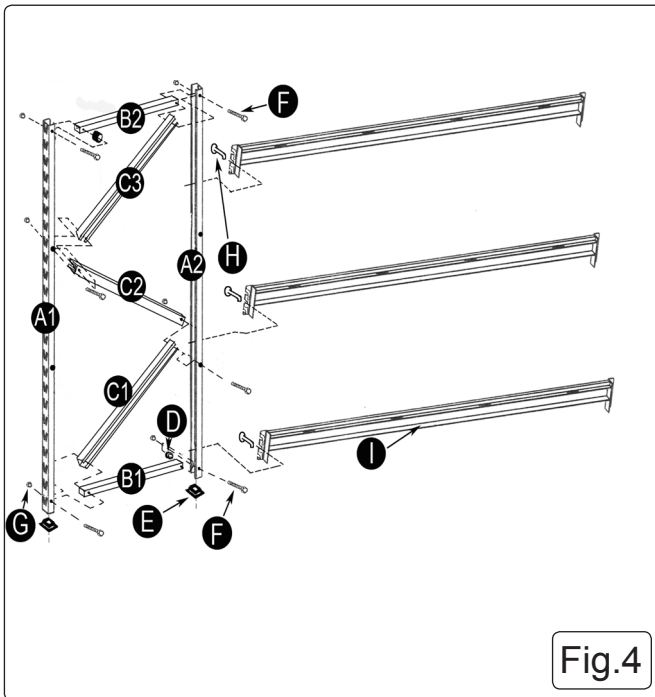

Fig.4
- 1.2 **Assembling the end frames. Refer to Fig.4.**